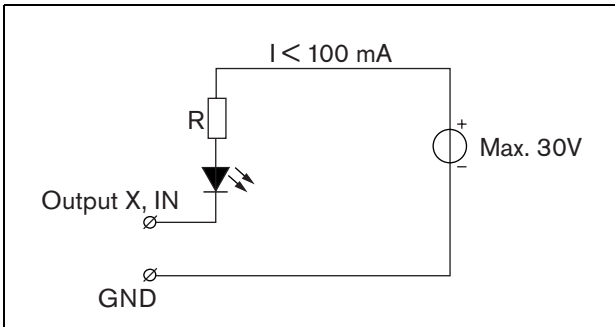

figure 19.5: Externally powered LED
- Externally powered lamp or LED. See figure 19.5 for a connection diagram.
The value of resistor R in figure 19.5 depends on the voltage of the external source, the forward voltage of the LED and the current flowing through the LED: